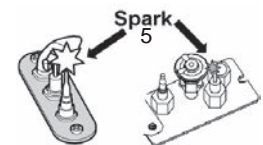

Fig 3
2. TO CLEAR ANY GAS, turn main valve off by pressing the  button on remote handset (1). Wait five (5) minutes to clear out any gas, then smell for gas, including near the floor. If you smell gas, STOP! follow "B" in the safety information above on this label. If you don't smell gas, go to the next step.
3. AUTOMATIC IGNITION: MAN-knob (2) in ON position. Ensure Flame Adjustment knob (3) is set to lowest setting (Fig. 1). Locate the pilot (Fig. 3.) inside the firebox.
With the window off, locate the pilot (Fig. 3) inside the firebox. Set Flame Adjustment knob (3) to the lowest setting. Push down the metallic core (4) with a pen or similar instrument; this will establish the pilot gas flow. Light gas at the pilot (5) with a match. Continue holding down metal core (4) for about 10 seconds; after release, pilot should remain lit. If the pilot will not stay lit after several tries, turn the gas control knob (3) to OFF and call your local service technician or gas supplier. Reinstall the window and set the MAN-knob (2) to ON; turn Flame Adjustment knob (3) up or down manually or use the  and  buttons on the remote control handset to adjust the flame height.